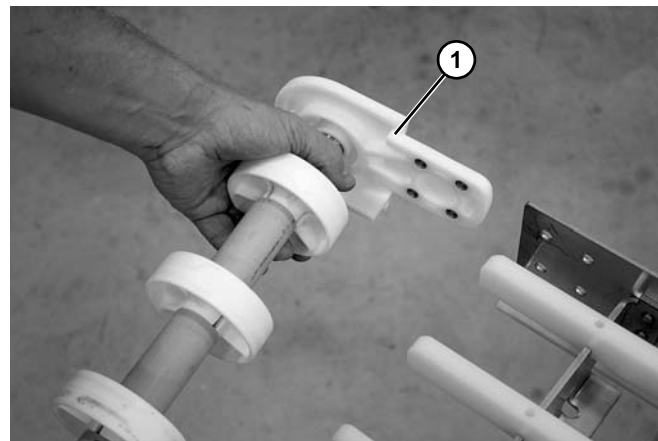

Figure 56
- Remove idler tail assembly (**Figure 56, item 1**).